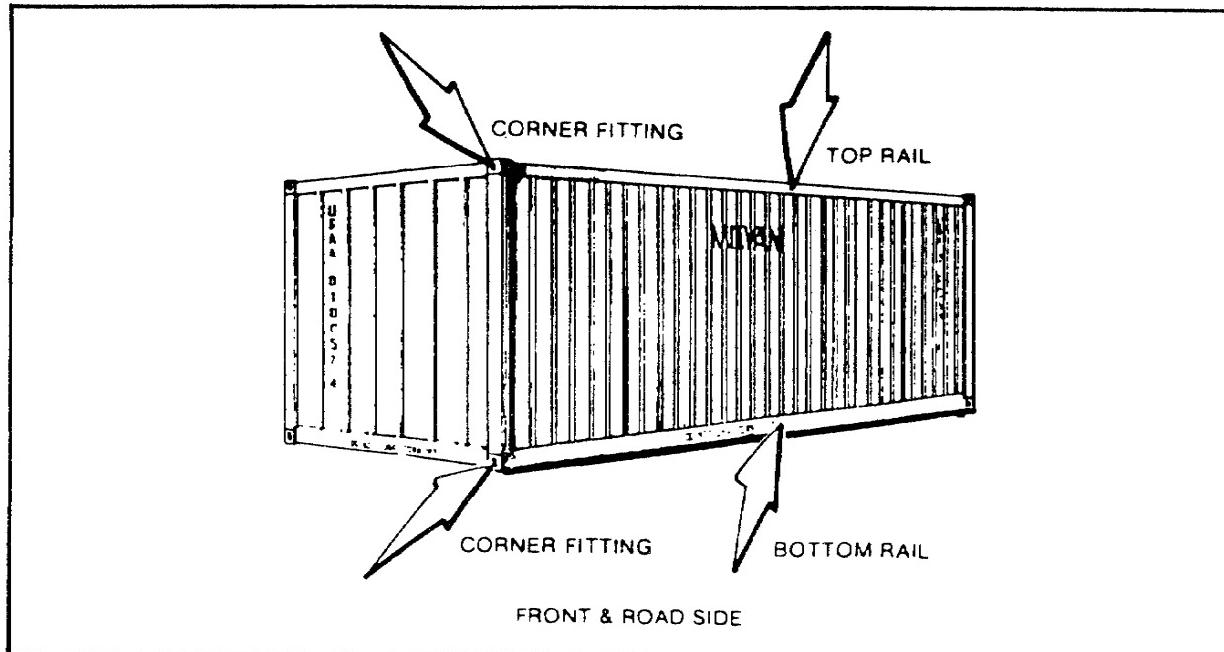

Figure 2-18. Important Inspection Points for the Front and Road Side of the MILVAN.
*Items 4 and 5-Front and Road Side (Exterior).* Examine the road side of the MILVAN and the front, checking in particular the top and bottom rails, corner fittings, and panels for any damage or distortion (figure 2-18).